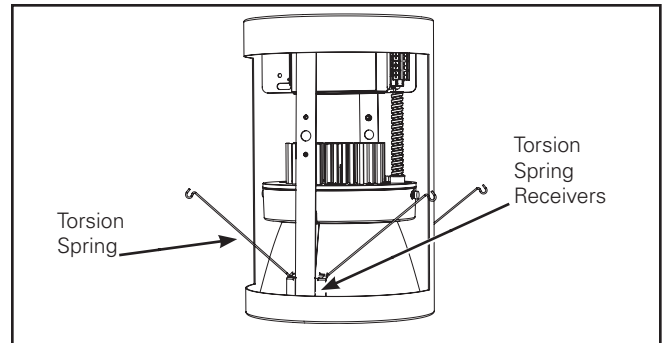

Figure 7.
- Install the LED Engine and trim assembly by inserting the torsion springs into the spring receivers located inside the housing (Figure 7).